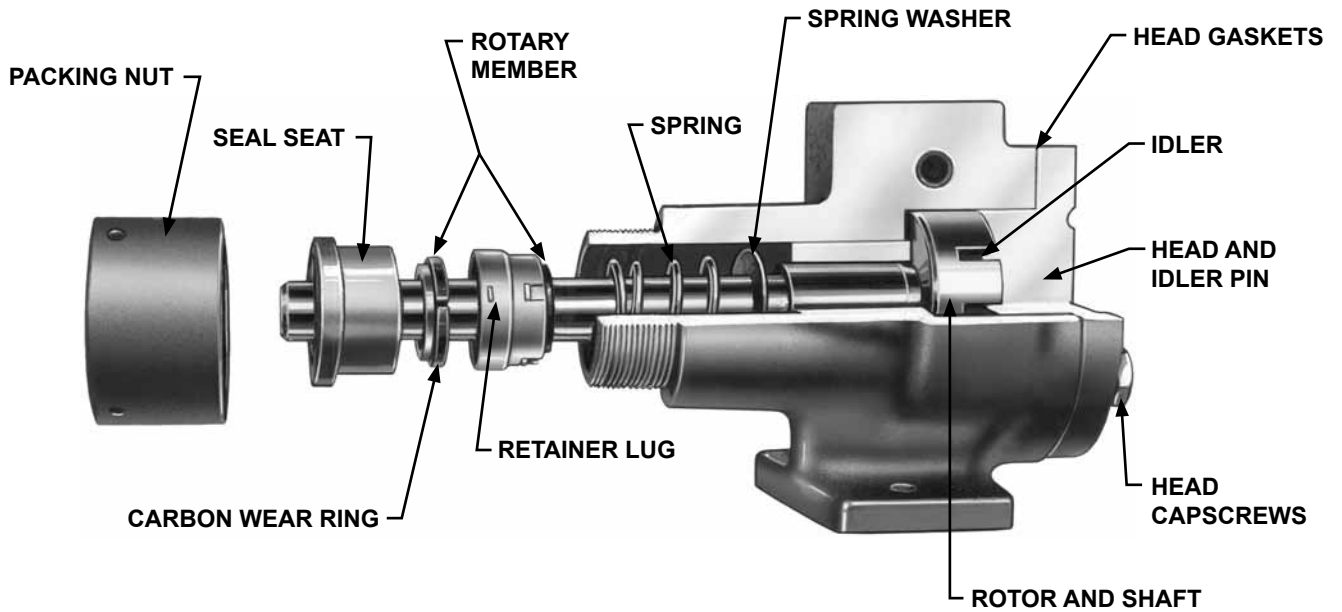

FIGURE 5
- When reassembling a mechanically sealed pump, place the spring washer and spring on the shaft, **see Figure 5, Page 4**. Coat the shaft and the inside of the rubber bellows of the seal rotary member with light oil. Slide the rotary member part way down the shaft.